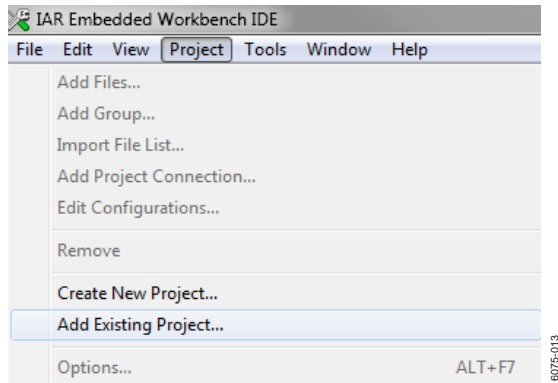

Figure 13. Adding an Existing Project
3. Under **Project**, click **Add Existing Project...**, as shown in Figure 13.